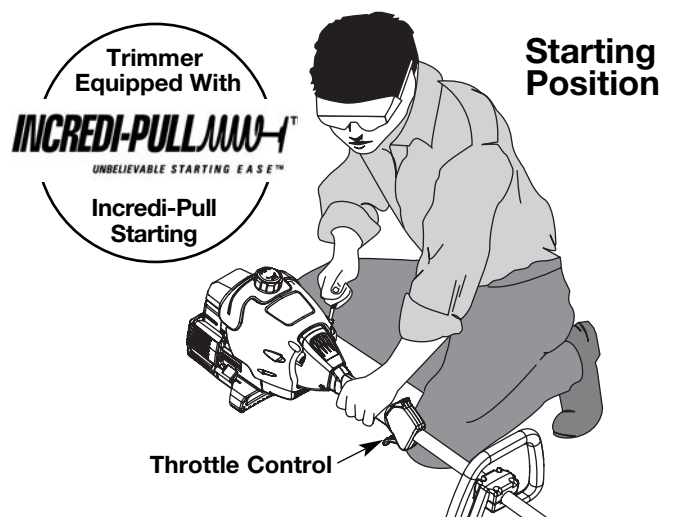

Fig. 5
**WARNING:** Avoid accidental starting. Make sure you are in the starting position when pulling the starter rope (Fig. 5). To avoid serious injury, the operator and unit must be in a stable position while starting.
5. Crouch in the starting position and **do not squeeze the throttle control** (Fig. 5). Pull the starter rope out with a **controlled and steady motion** up to 10 times. Repeat until the engine starts.